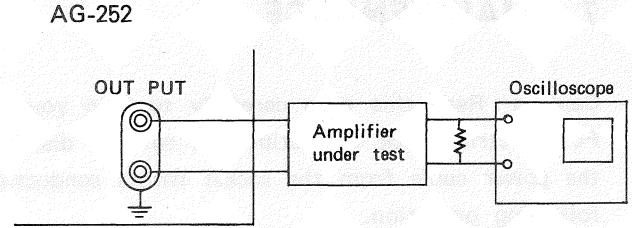

Fig. 7
- 1) Connect AG-252 an amplifier to be tested and an oscilloscope as shown in Fig. 7 .
- 2) Press WAVE FORM ⑦ to the "  $\square$  " position to obtain square waves of appropriate frequency and amplitude.